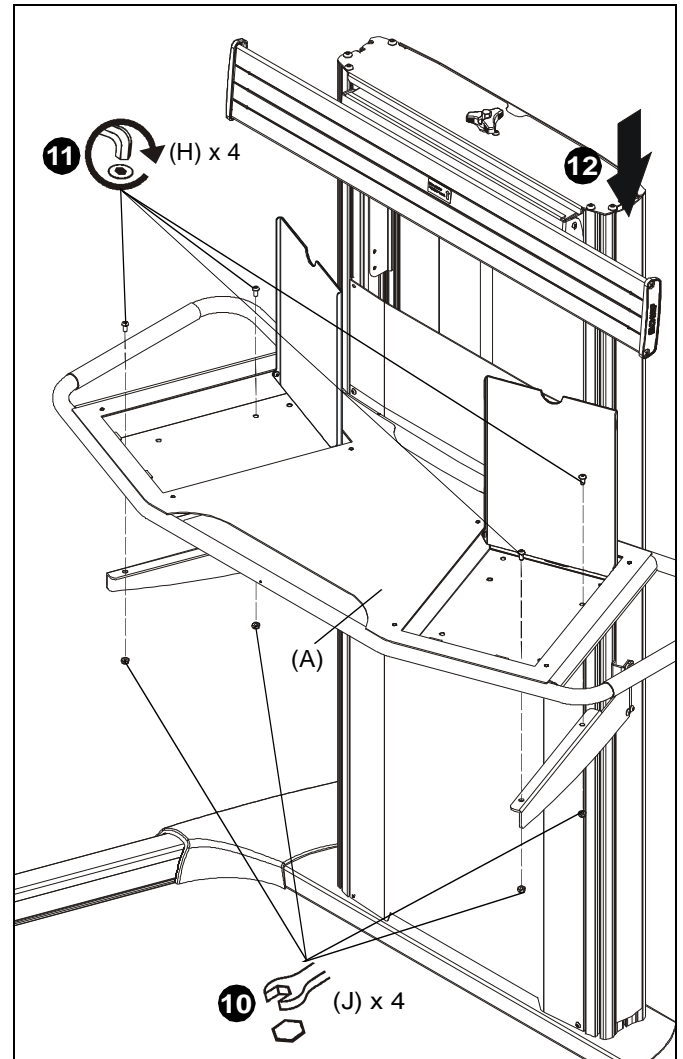

Figure 7
11. Open storage tray lids and use four 1/4-20 x 1/2" button head cap screws (H) and four 1/4-20" lock nuts (J) to secure large storage shelf (A) to shelf supports (B and C). (See Figure 7)
12. Reinstall side covers into each side of cart/stand. (See Figure 7)